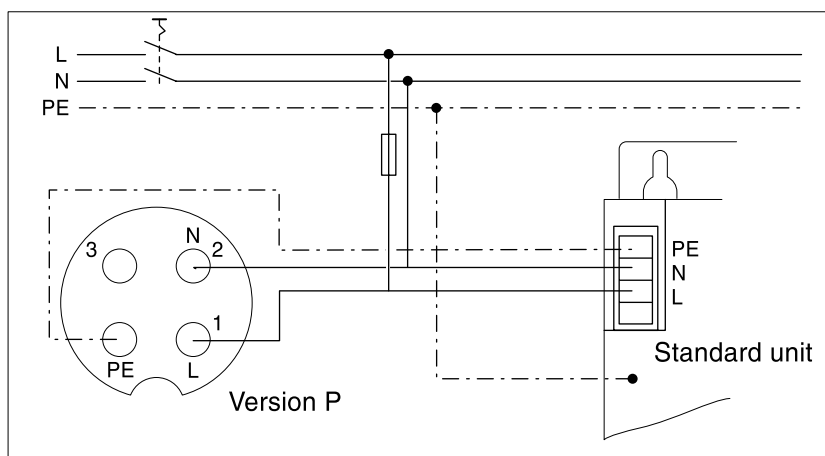

Fig. 4.7 Line connection for single-phase units
- ▶ Mount the grommets as shown in Fig. 4.7.